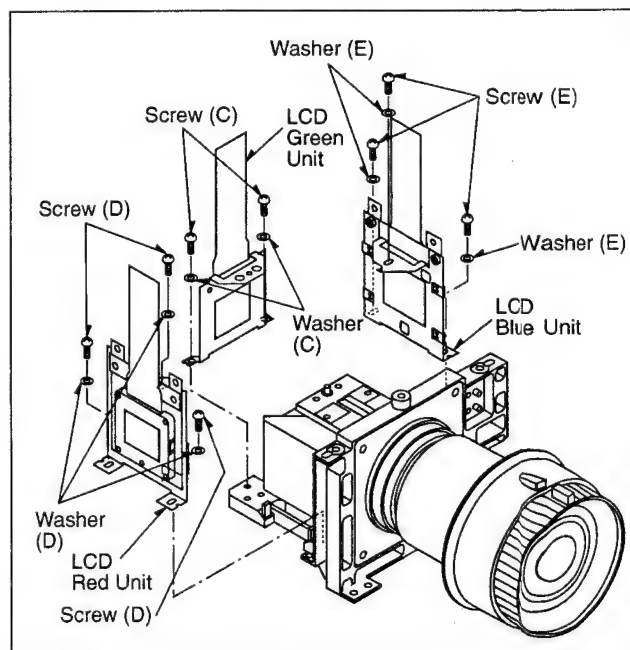

Fig. O5
1. Remove 2 screws (C) and 2 washers (C) to remove the LCD Green Unit as shown in Fig. O5.
1. Remove 3 screws (D) and 3 washers (D) to remove the LCD Red Unit as shown in Fig. O5.
1. Remove 3 screws (E) and 3 washers (E) to remove the LCD Blue Unit as shown in Fig. O5.